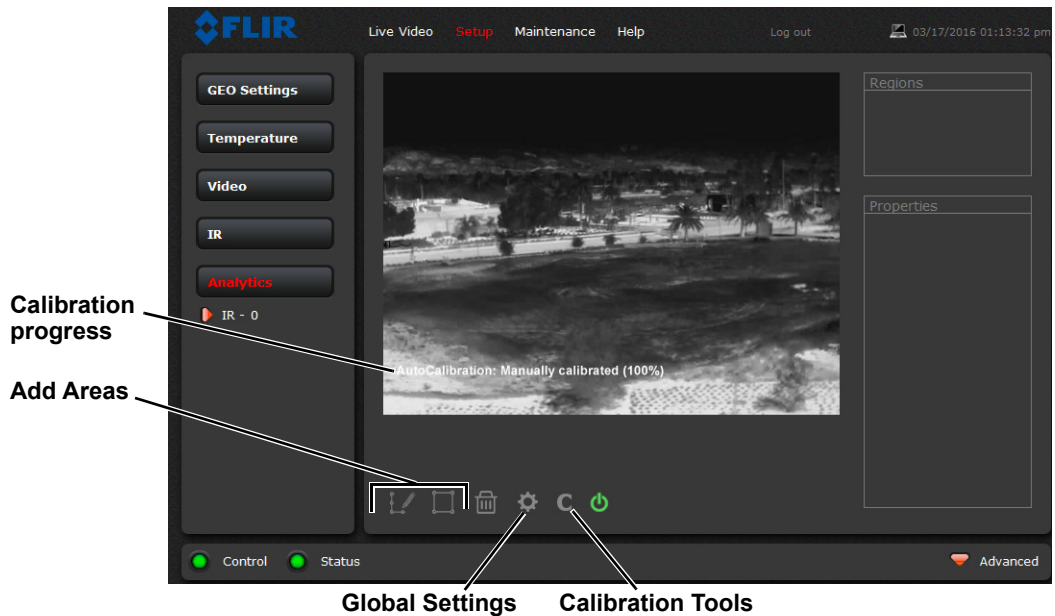

Figure 3-1: Analytics Page
- Step 3 Click **Relearn**. The camera automatically calibrates the depth of the FoV based on people walking in the scene. Be sure that people are walking along the entire vertical axis of the FoV until calibration is finished. The On-Screen Display shows the progress as a percentage in the upper left corner of the video (see Figure 3-1).